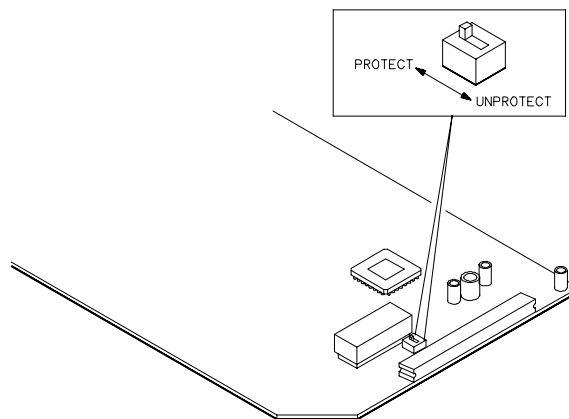

Figure 4-2. Location of the PROTECT/UNPROTECT Switch
2. Remove the oscilloscope module and set the PROTECT/UNPROTECT switch to the UNPROTECT position. See Figure 4-2 to locate this switch.
2. Remove the oscilloscope module and set the PROTECT/UNPROTECT switch to the PROTECT position. See Figure 4-2 to locate this switch.